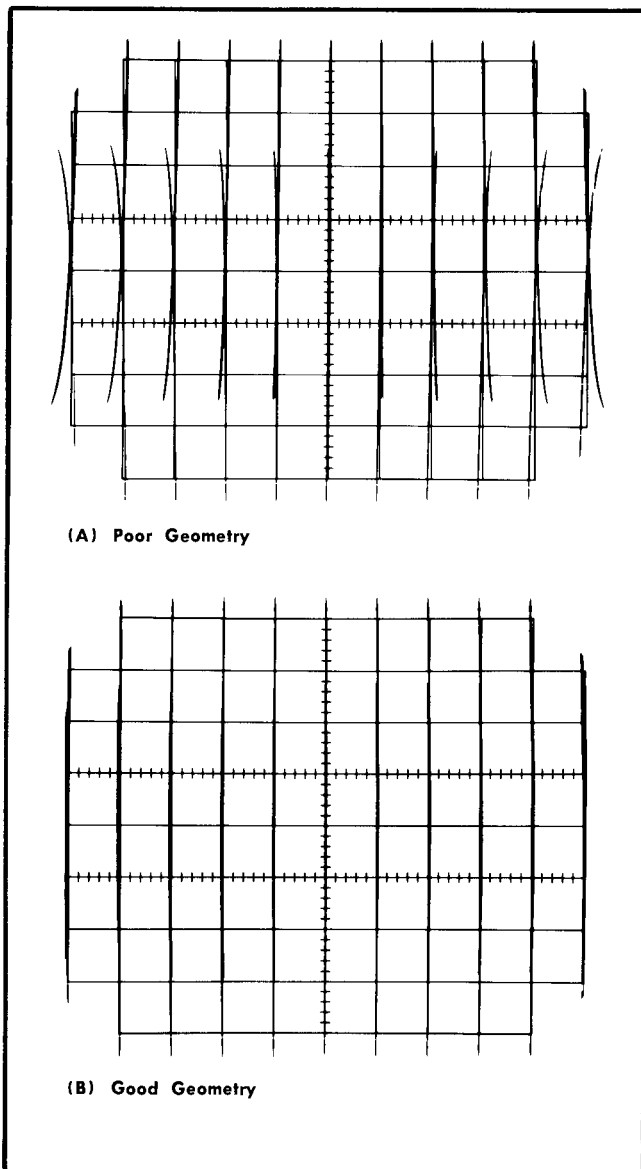

Fig. 5-3. Typical CRT displays showing (A) poor geometry adjustment; (B) good geometry adjustment.
- c. Apply 1-millisecond markers from the time-mark generator (item 4 of Recommended Equipment) through a BNC T connector, two 50 Ω cables and 50 Ω terminations to the Type 1A1 vertical inputs of both plug-ins.
- j. Check—Maximum deviation of the traces from vertical graticule lines should not exceed 1 mm. See Fig. 5-3 for examples of geometry adjustment.